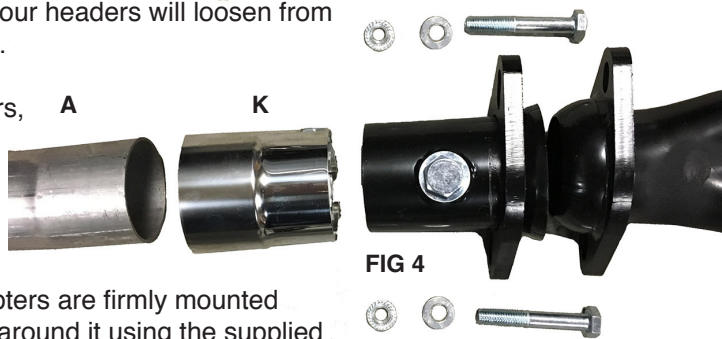

FIG 4
5. If you are installing our head pipes to compatible shorty headers, you will first need to attach the 2 bolt flange adapter (included with headers) to the headers. Be sure to clock the adapter so the O2 sensor bung is facing up and has enough room for the sensor to thread on. It is important that the sensor is not facing down, doesn't have any interference issues and that the wiring coming out isn't kinked or rubbing on anything. Once the adapters are firmly mounted properly, slide Head Pipe **A** inside of it and install Band Clamp **K** around it using the supplied hardware. Do the same with Head Pipe **B**. See **FIG 4**. Be sure not to over tighten any clamps during install. It will take some fiddling and massaging to get all the pipes to slide together. In some applications, pipes **A & B** may need a little trimmed off the front. Trimming may be required for a couple reasons. Sometimes the **A & B** pipes will need to slide deep into the adapter at the header and will not allow the O2 sensor to thread in all the way. Once the head pipe is in position, remove the bolt at the O2 bung & see or feel for clearance issues. Do not cut more than an inch off the front of the **A & B** pipes. If you need to remove more material, do so on the other end. We leave these pipes a little long so they fit many different applications. Bronco's with a 289/302/5.0 with a 2-2.5" suspension lift, may require extra trimming if pipe **A** is too close to the driveshaft. Keep in mind if you have a C4 or AOD do not trim too much or it could make contact with the bottom of your transmission.